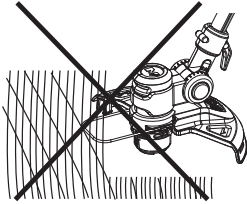
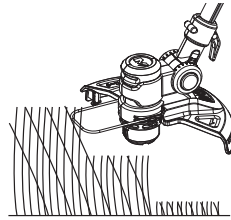

Fig. 17
Fig. 18
7. Ensure the cutting device remains clean and free from off-cuts that may cause it to jam. Check regularly. Release the on/off switch (3) and remove the battery pack before checking.
8. Trim longer grass in stages; do not cut long grass in one cut (Fig. 17). For the best results, cut longer grass in steps (Fig. 18).